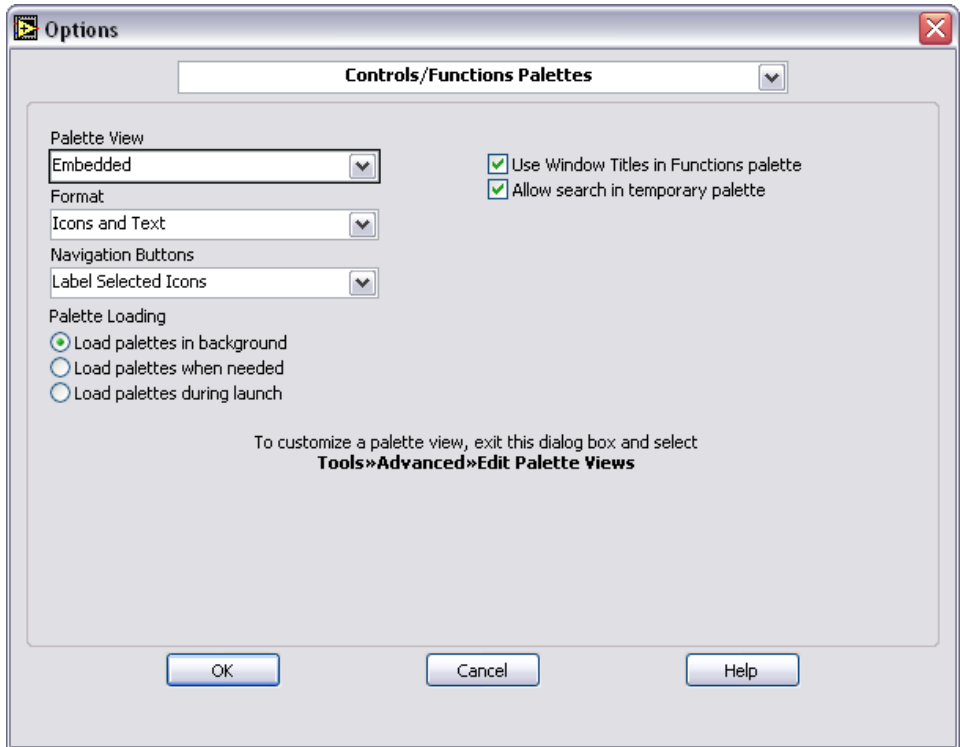

Figure 3. Changing the Palette View
3. Select **Embedded** from the **Palette View** pull-down menu as shown in Figure 3.